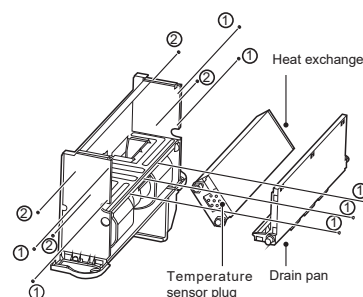

Figure 4-8 Removal of drain pan and heat exchanger
- As shown in Figure 4-8, remove screws ①*7 to take the drain pan out. Then, remove screws ②*4 to take the heat exchanger out.